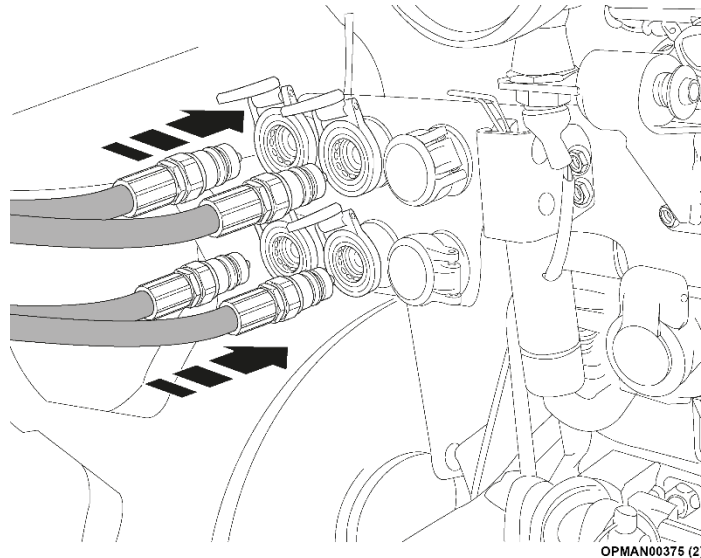

Figure 10
- 3.2.2.8 Connect the 4 hoses of the hydraulic system of the Mower to the appropriate services on the tractor (Figure 10) considering that: